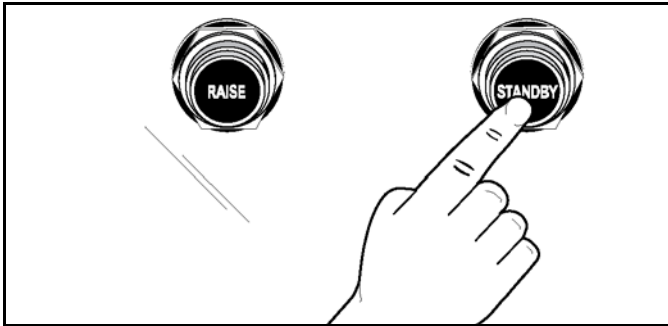

Figure-84
1. To place the upper platen in the Standby position, press the STANDBY button twice from the Open position. See Figure-84.